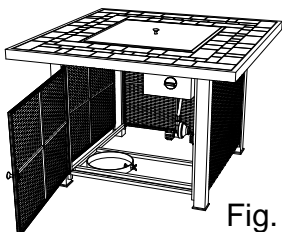

Fig. 4
- 1- Open the door and control valve outside. See Fig 4.